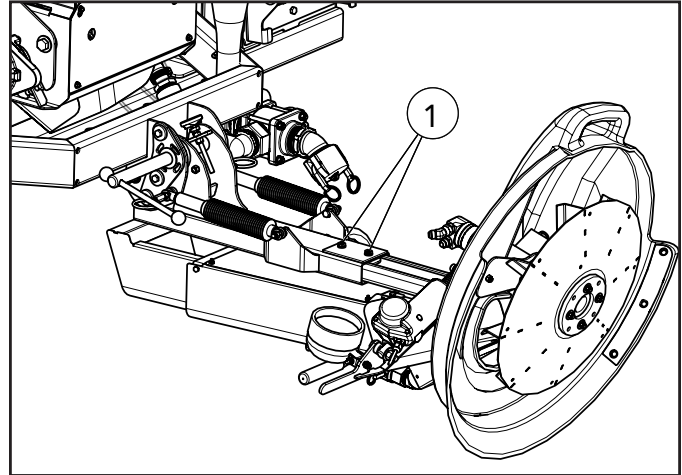

Figure 5
- Figure 5 - Loosen clamp and raise distribution system until horizontal to ground. Tighten clamp to hold position.
- Loosen hardware on chute lock plate (1) indicated in Figure 5.